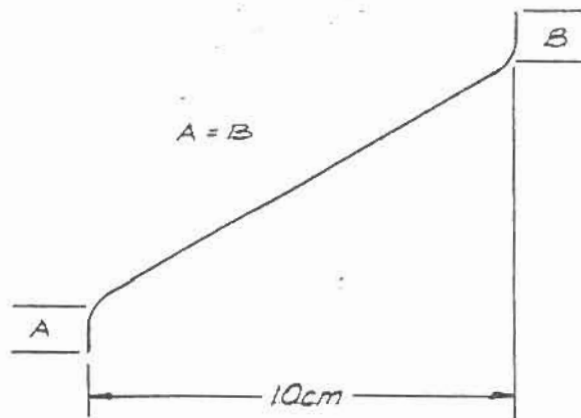

Figure 4-3 Sweep Curl Waveform
10. Observe that the curls at the beginning and end of the sweep are equal. See Figure 4-3. If the curls are not equal, adjust the Sweep End Level potentiometer R131 on 610C-ML-835.